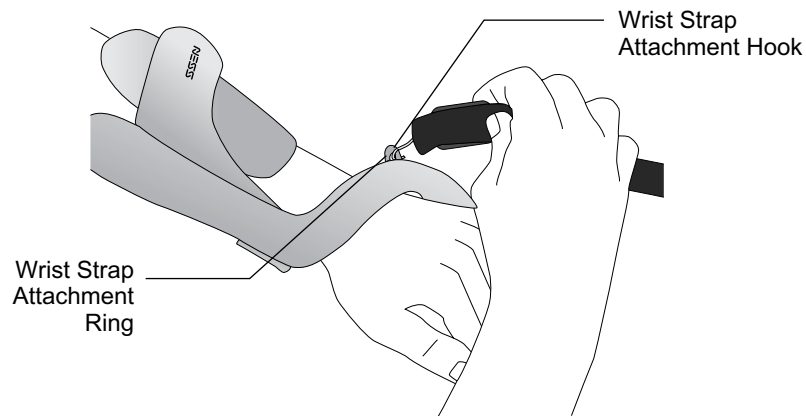

Figure 6-8: Attaching the Wrist Strap
1. Attach the hook on the wrist strap to the attachment ring on the Orthosis wrist bridge. See Figure 6-8.